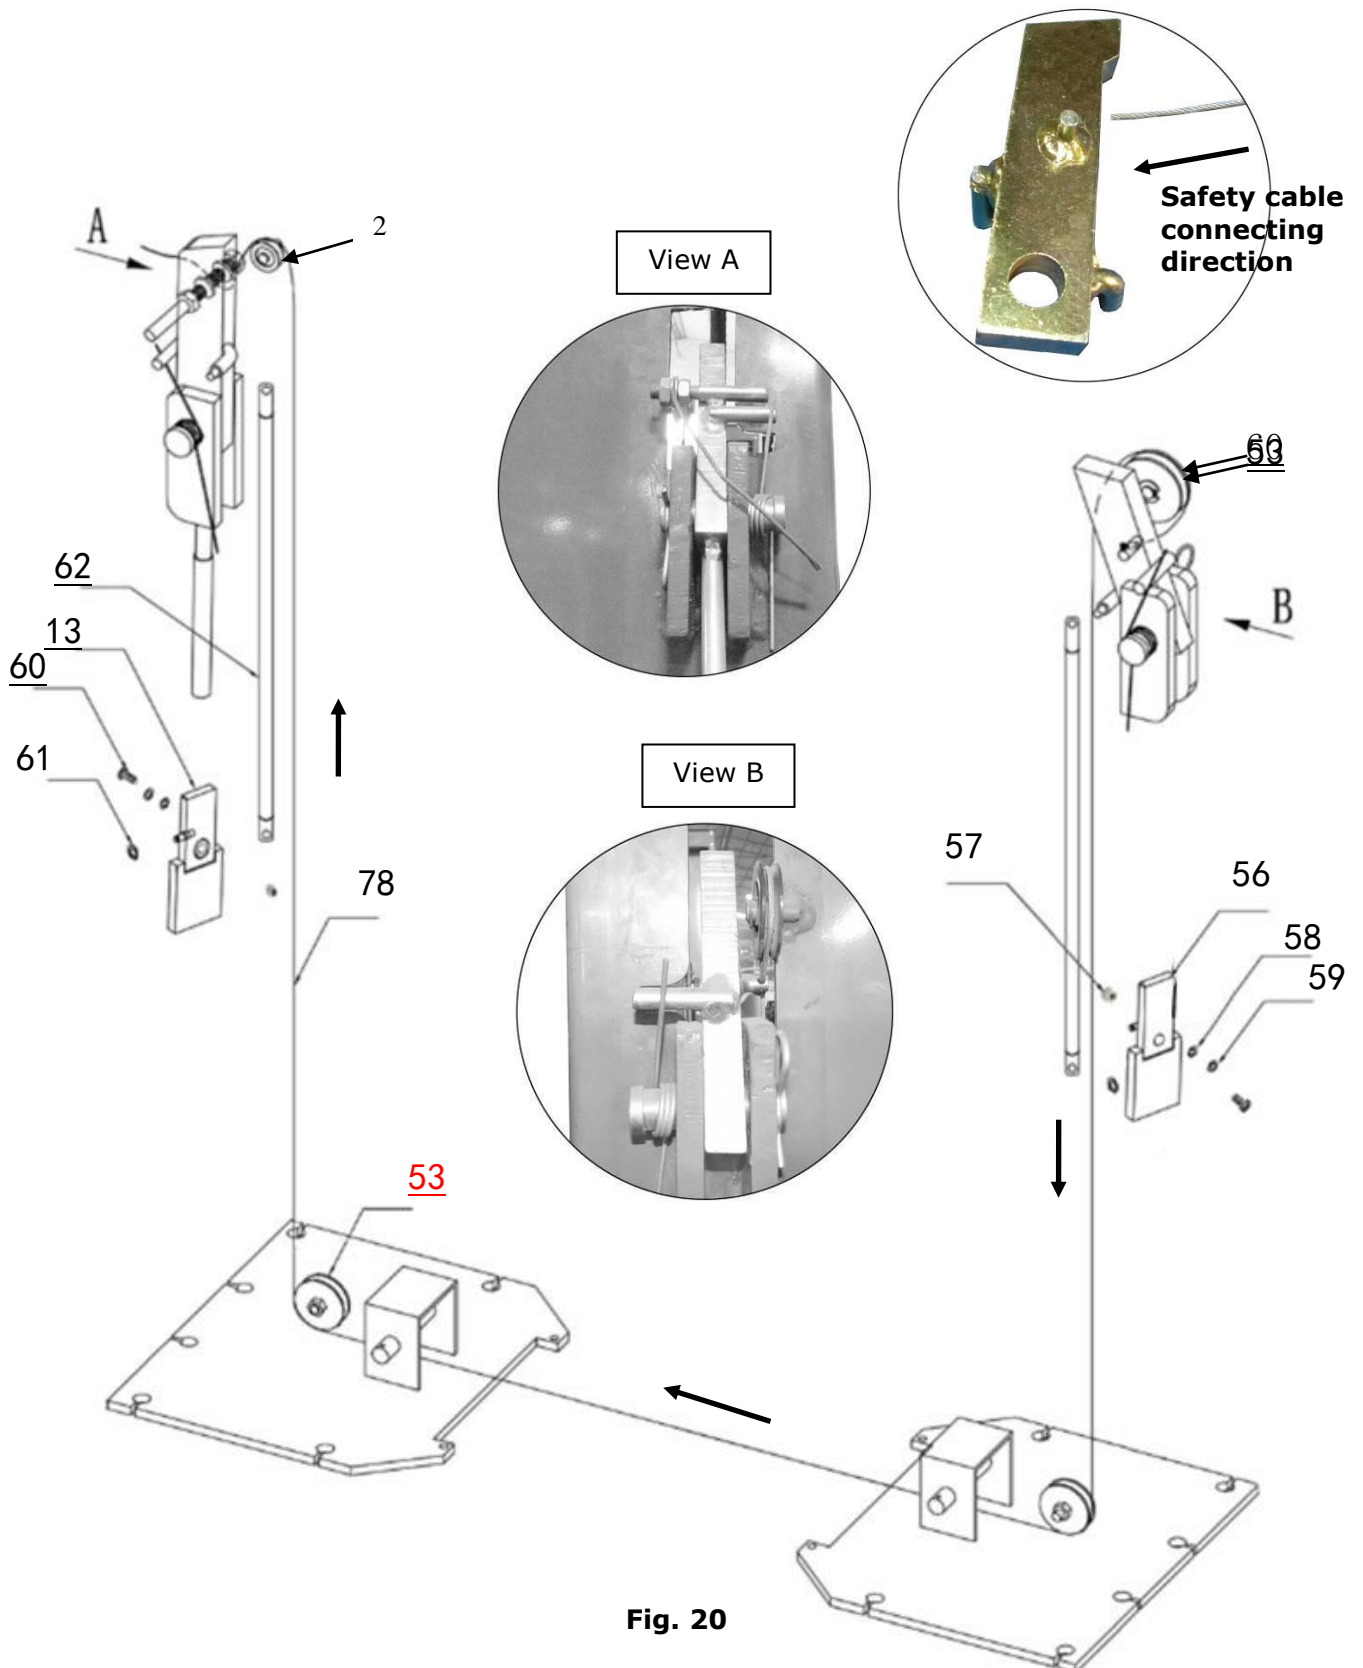

Fig. 20
K. Install safety device and safety cable (See Fig. 20).